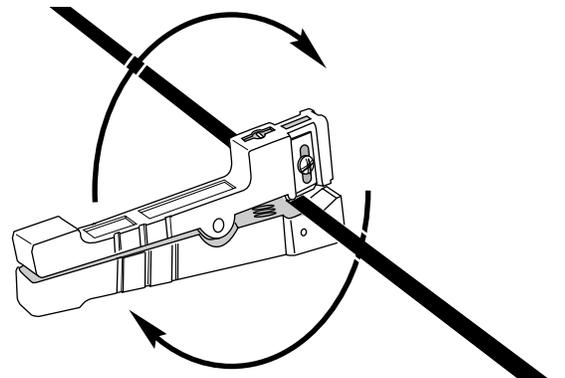

Figure 6
- Use your other hand to rotate the tool around the jacketed tube four to six complete turns to score it (Figure 6). The tool should cut through the jacket and dielectric strength members, and only score the buffer tube. Remove the tool from the central tube.